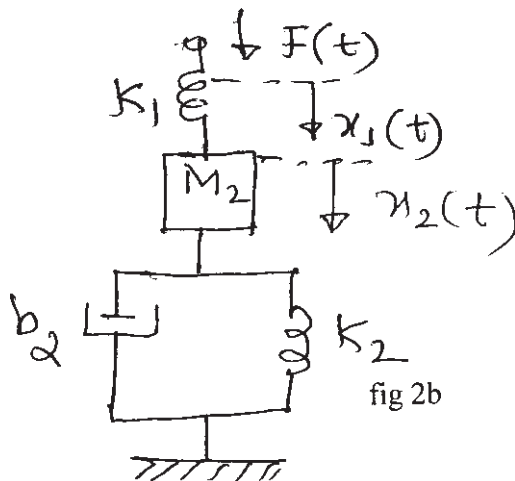

fig 2b
- b) Write the equilibrium equations for the mechanical system as shown in fig 2b and derive the electrical equivalent circuit using Force-Voltage analogy. [8]